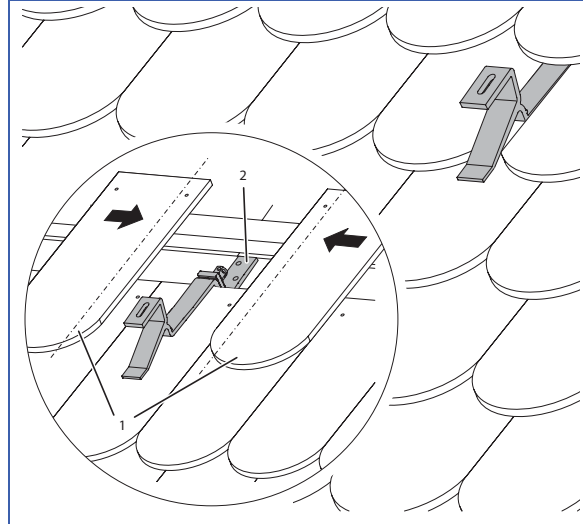

Figure 78 Roof jack attached on a plain tile roof
Figure 78 shows attaching the roof jack (item 2) to a plain tile roof. Trim and attach the plain tiles on site.
Legend (Figure 78)